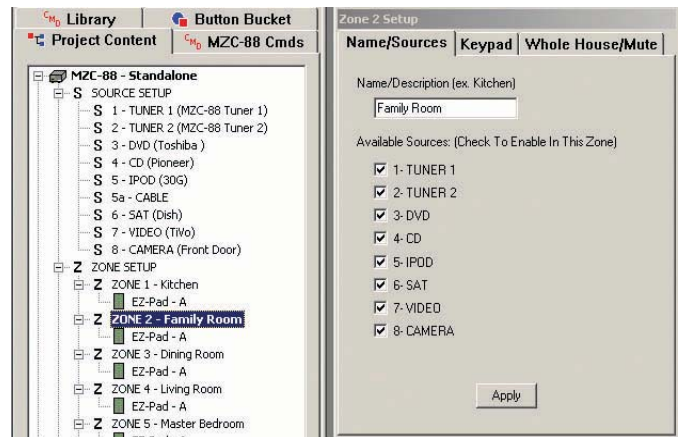

Figure 19
3. Under **Project Content/Zone Setup**, left click the Zone that the MODE 3.1 is going to be added to - for this example, Zone 2. **The Zone 2 Setup Window** will appear as shown in **Figure 19**.